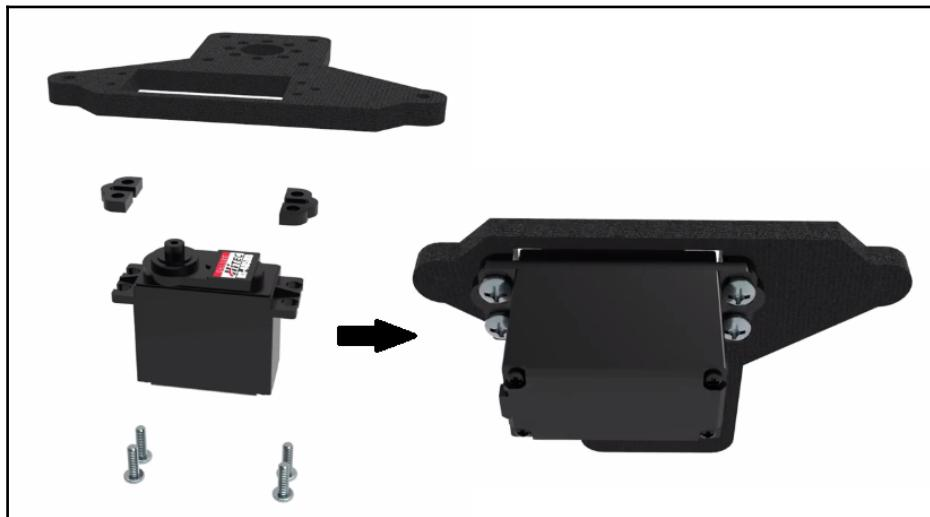

Figure 7.4: Attaching servo to the ABS base pulley. Image courtesy of ServoCity (<https://www.servocity.com/parallel-gripper-kit-a>)
4. Place the acetal spacers between the ABS plate and servo. Then, attach the servo to the ABS plate using the 7/16 x 6-32" pan head screws (*Figure 7.4*):